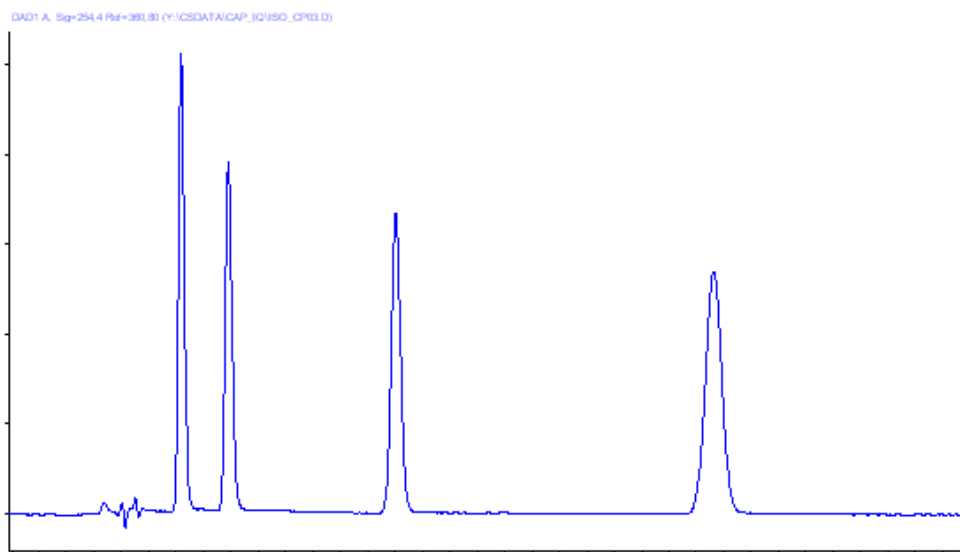

Figure 15 Chromatogram
- 2 Compare the resulting chromatogram with the typical chromatogram shown in Figure 15 on page 68.
A typical chromatogram for this analysis is shown in Figure 15 on page 68. The exact profile of the chromatogram will depend on the chromatographic conditions. Variations in solvent quality, column packing, standard concentration and column temperature will all have a potential effect on peak retention and response.